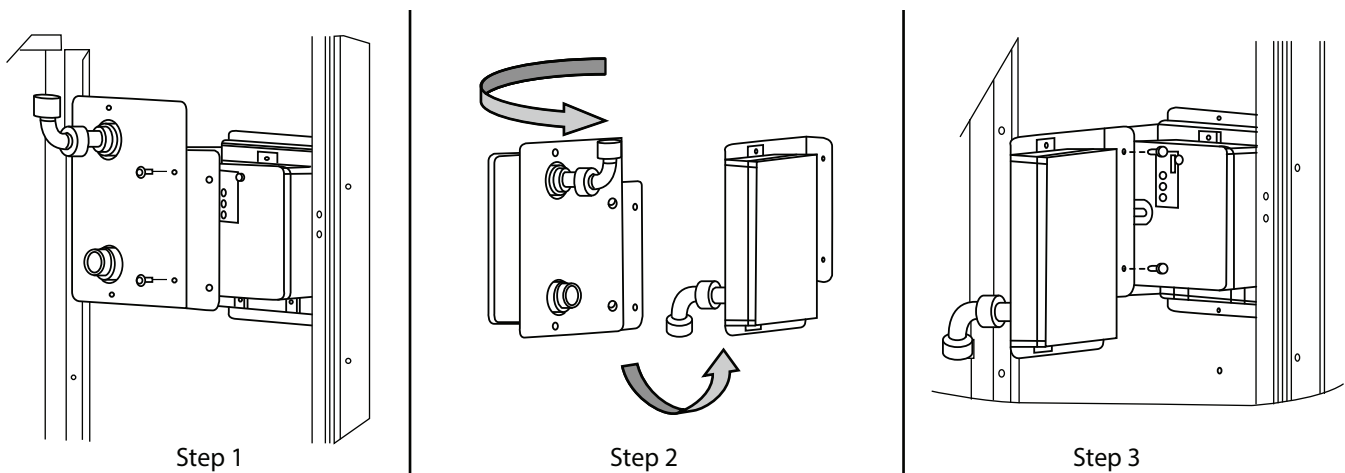

Fig. 81 — Completing Installation of Return Air Smoke Sensor
1. Unscrew the two screws holding the Return Air Smoke Detector assembly. See Fig. 81, Step 1. Save the screws.
2. Turn the assembly 90 and then rotate end to end. Make sure that the elbow fitting is pointing down. See Fig. 81, Step 2.
3. Screw the sensor and detector plate into its operating position using screws from Step 1. See Fig. 81, Step 3.